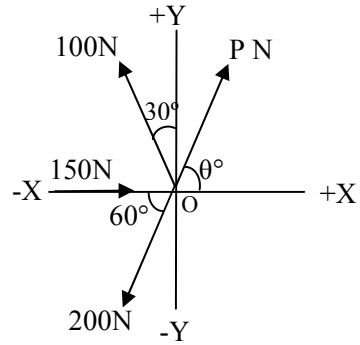

Fig. 3 Que 3(a)
Q.3 (a) A system of four forces shown in **Fig. 3**, has resultant 50 kN along + X – axis. Determine magnitude and inclination of unknown force P . **04**